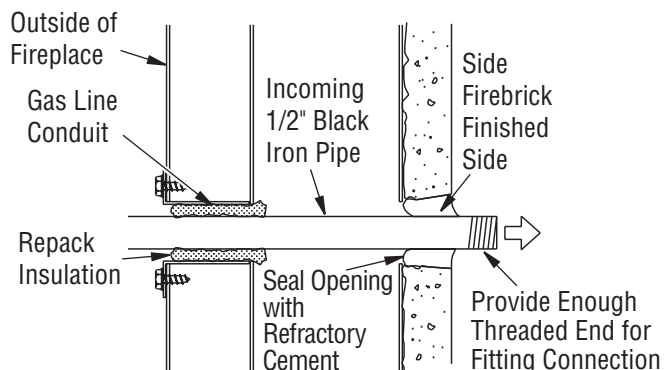

Figure 23 - Gas Line Installation
3. Run a 1/2" black iron gas line into fireplace through rear of gas line conduit sleeve (if using a raised platform, add height). Provide sufficient gas line into fireplace chamber for fitting connection (see Figure 23).